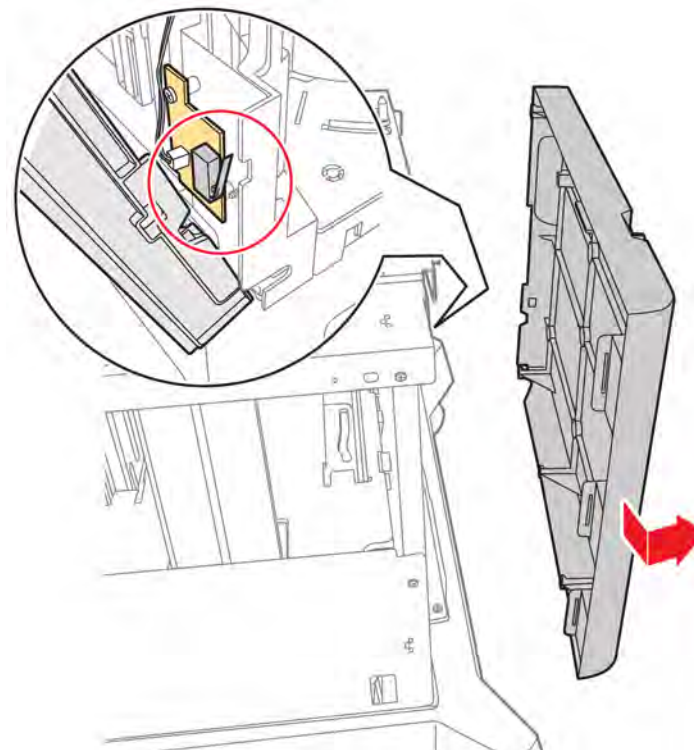

Figure 1 Remove the left cover
3. Slide the left cover to the rear to release the hooks that secure the cover to the chassis, Figure 1.